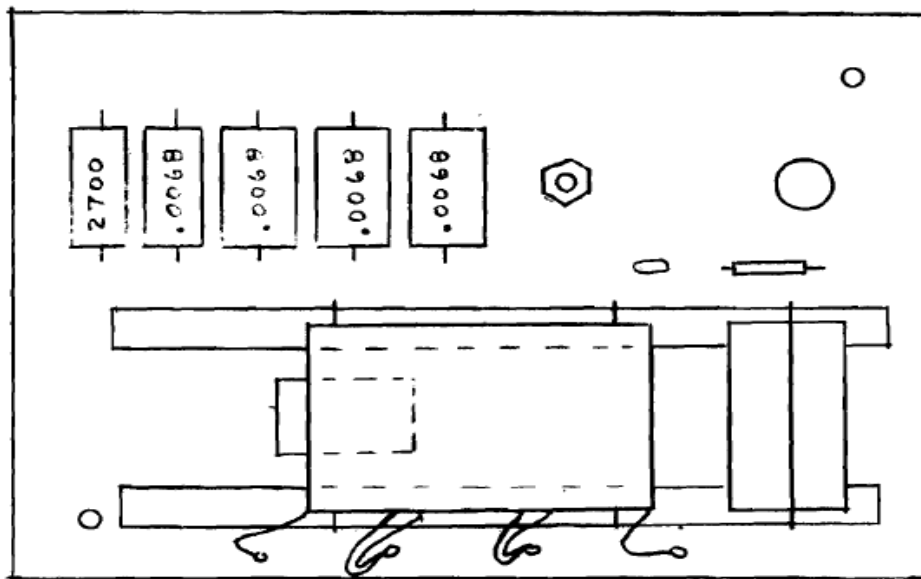

Fig. 2 Component side.
- ( ) Place one of the plastic rods next to the wire on the component side of the board. The end of the rod should be  $\frac{1}{4}$ " from the right side of the board (Fig. 2).
- ( ) Place the leads of the five large tubular capacitors in their holes as shown in Fig. 2. Solder the leads and cut off the extra wire.
- ( ) Remove the wrapped insulation from the end of each loading coil lead for about  $\frac{1}{4}$ ". Wrap the exposed wire ends around the pins and solder to the pins. See Fig. 2. Note that the center pins each get two wires.